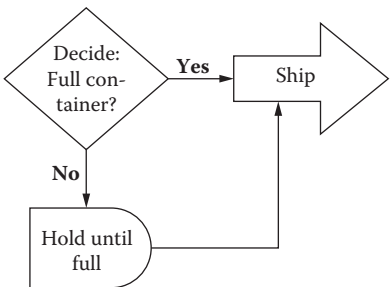

Figure 6.8 Decision branches labeled Yes or No.
6. Make sure the branches of your decision symbols are labeled (Figure 6.8).